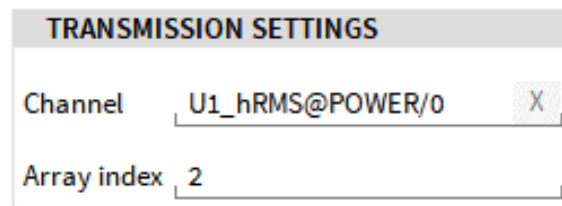

Fig. 7.214: Outputting arrays elements over CAN
It is also possible to output dedicated elements of an array channels (such as harmonics from a power group) over CAN. To do so drop the array channel in to the Channel section (see ④ in Fig. 7.213) of the Transmission Settings and enter the index of the array elements that shall be output in Array index (see ⑤ in Fig. 7.213). As an example: If the second harmonics of a voltage channel shall be output over CAN, type in the harmonics channel name in the Channel section, i.e. `U1_hRMS@POWER/0` and enter the index 1 in the Array index section (see Fig. 7.214).